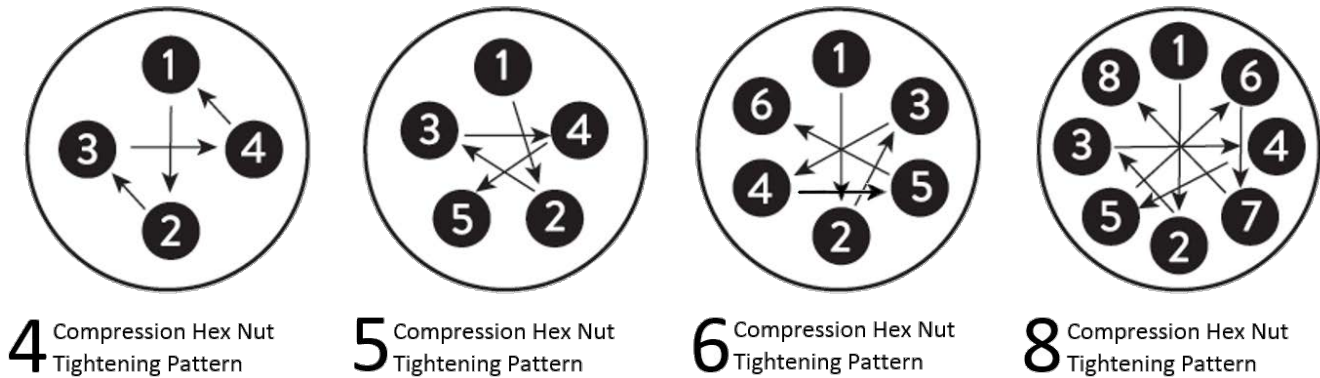

Figure 8: Compression Hex Nut Tightening Pattern Examples
- Using a star pattern shown in Figure 8, turn each **Compression Hex Nuts(19)** a maximum of 3 full revolutions before moving to the next nut. Repeat until 50% target torque is achieved on all nuts, then increase to 100% target installation torque and continue torqueing in a star pattern. After completing the star pattern at 100% of the target torque, use a circular pattern to confirm all nuts are torqued correctly.